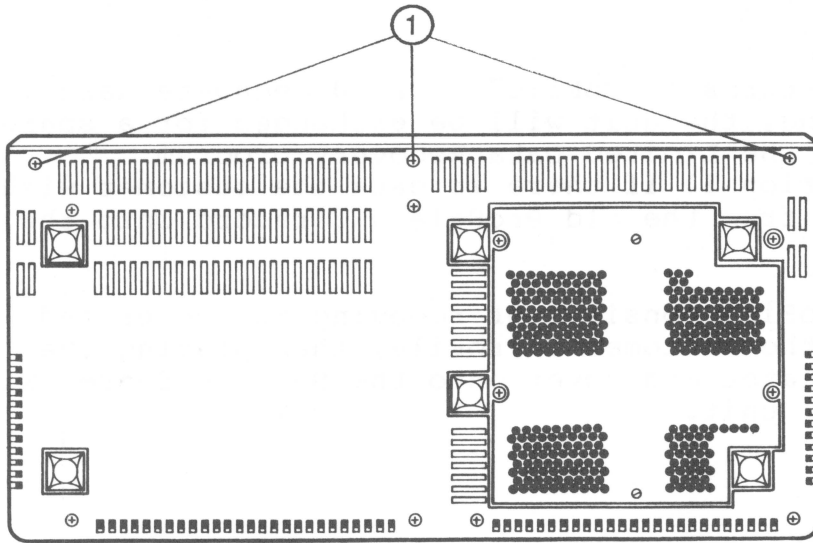

FIGURE 1
2. Turn the ProFile over, lay it on the protective pad, and remove the three Phillips-head screws from under the front panel (Figure 1, #1).